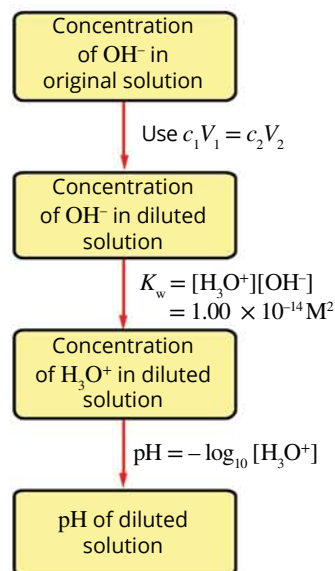

FIGURE 15.4.3 Calculating the pH of a diluted solution of a base.
The following steps and flow chart shown in Figure 15.4.3 show the sequence used to calculate the pH of a base after it has been diluted. Remember that pH is a measure of the hydronium ion concentration.
- 3 Calculate the pH of the solution using $\text{pH} = -\log_{10}[\text{H}_3\text{O}^+]$ (Figure 15.4.3).